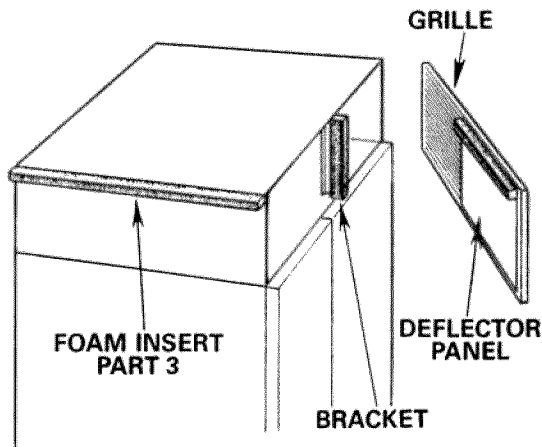

Figure 14 - Foam Sealer on Left Side of Hood
26. Insert the 24" strip of foam (part 3), along the outside left upper edge of the hood and the side wall. This is to block the air from escaping over the top of the hood. See Figure 14.